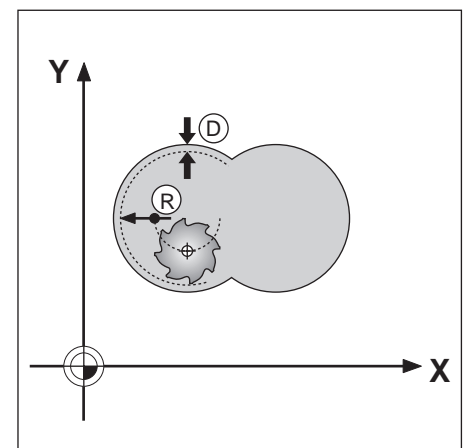

Fig. 8.29: Finishing allowance
- Allowed material for the drilling operation (see Fig. 8.29).